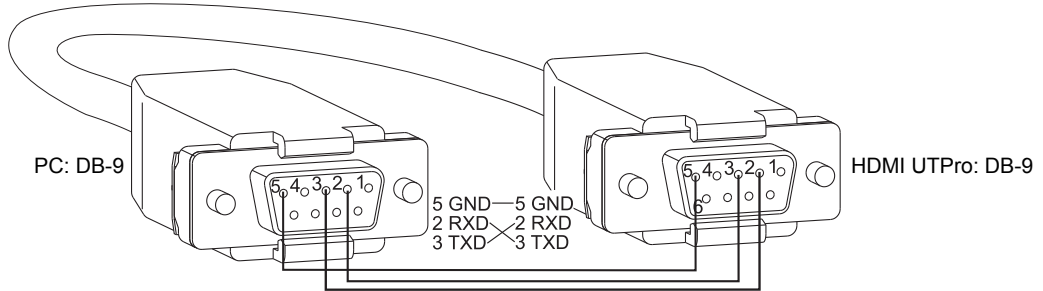

FIG. 68 RS-232 pinout
1. Attach a null modem serial cable without hardware flow control to the Control port (DB-9) on the HDMI UTPro. Use a serial cable that matches the pin diagram in FIG. 68 for RS-232. The Control port uses pins 2, 3, and 5 only.